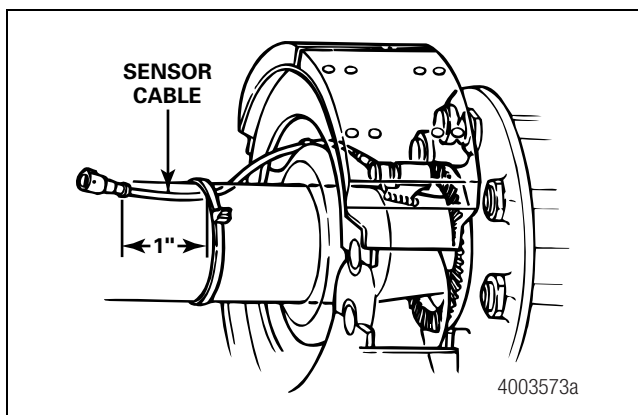

Figure 24
- Route the sensor cable toward the brake chamber, either over the brake spider or through the pre-stamped hole dedicated to ABS sensors. Route to the back side of the axle. Use black tie wraps to secure the cable to the axle between the brake spider and the suspension brackets. Continue to route the sensor cable behind the spring seats. Secure the cable to the axle one inch from the molded sensor plug. Figure 24.